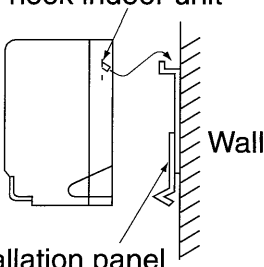

Fig. 4
5. Hang the indoor unit securely from the hook on the installation panel. (Refer to Fig. 4 and 5)